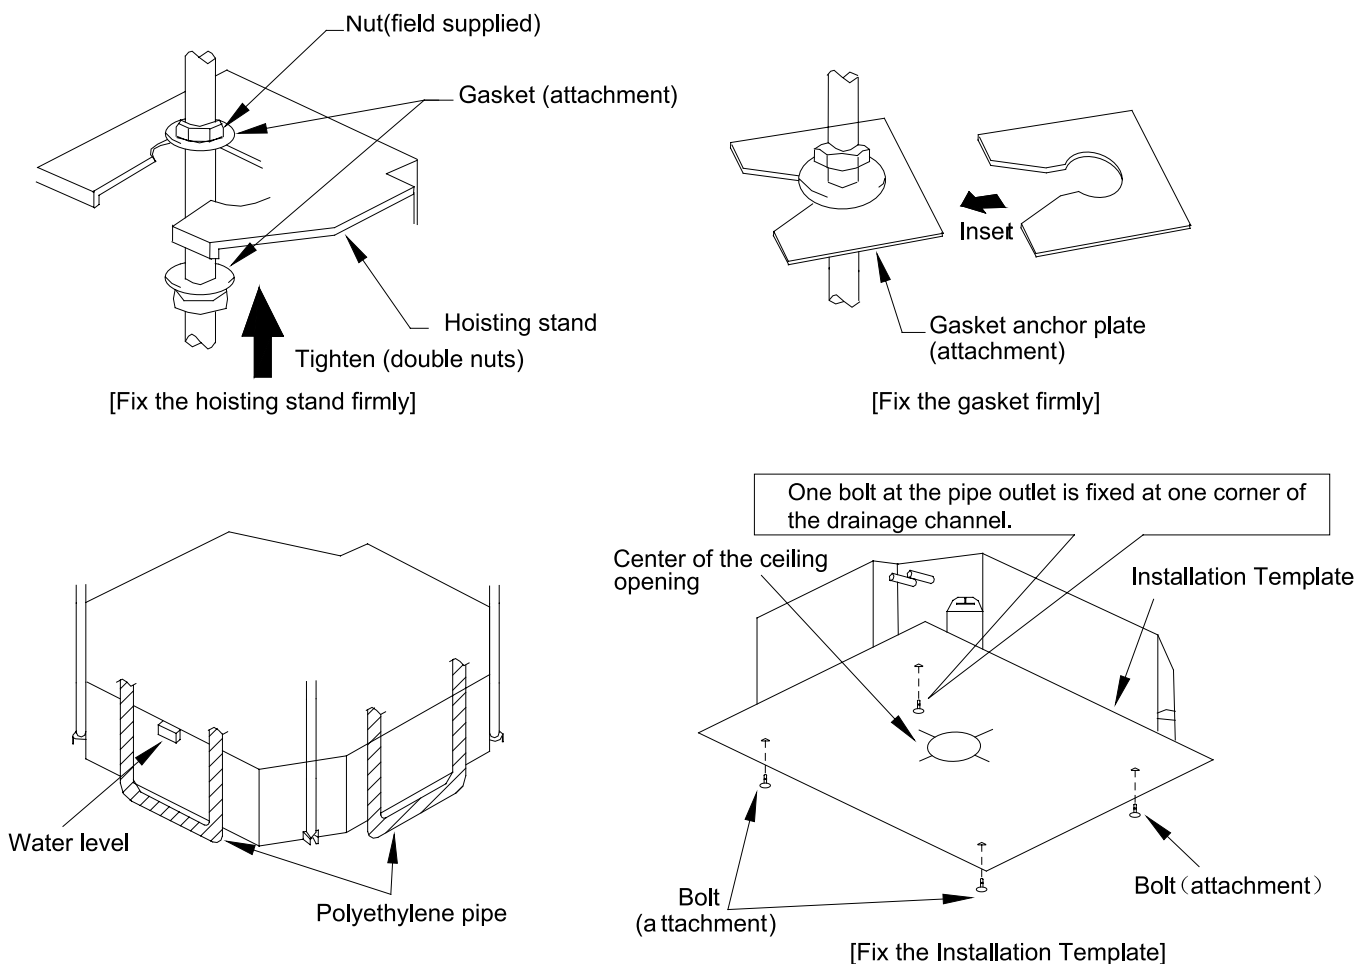

Fig.3
- (1). Primary Step for Installing the Indoor Unit
- (2). Use of the Installation Reference Cardboard
- (3). Adjust the unit to the suitable installation place. (Refer to Fig. 3)
- (4). Check if the unit is horizontal.
- (5). Backout the reference cardboard.